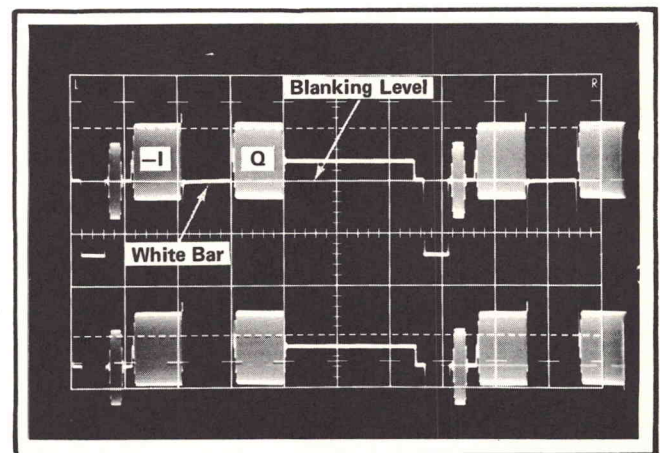

Fig. 5-32. Typical display to check or adjust the $-I$, W , Q , B white bar amplitude
c. Observing the test oscilloscope display, rotate the 067-0596-00 calibration fixture V_2 Volts control until the white level (see Fig. 5-32) of the lower display just aligns with the blanking level of the upper display.
e. Observing the test oscilloscope display, rotate the 067-0596-00 calibration fixture V_2 Volts control until the $-I$ signals just meet (see Fig. 5-32 for $-I$ and Q location).